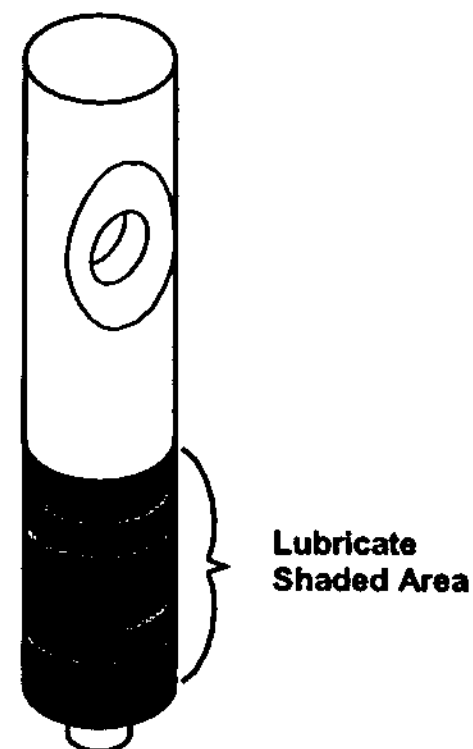

Fig. 18
a. Install the two o-rings on the spigot plunger by rolling them onto the plunger. Seat the o-rings in the grooves. Make certain that they are not twisted. Smooth the lubricant into the grooves and over the sides of the plunger assembly (Fig. 18).